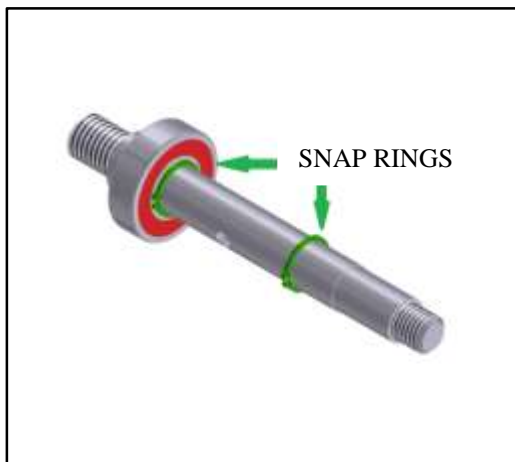

Figure 19: shaft-bearing-snap ring positioning.
- b) With a hydraulic press, insert one of the bearings into the shaft and carefully press the bearing until it reaches the shaft stop. Then place the two snap rings on the shaft, one next to the bearing and the other in the designated space, as shown in figure 19.